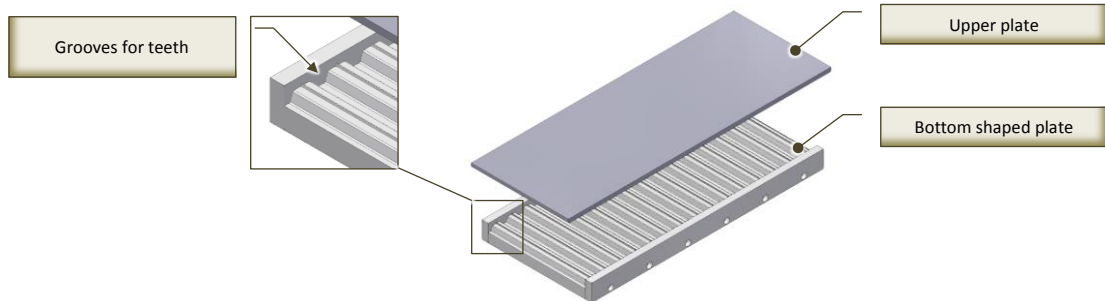

Fig. 8-5 – Positioning of the HabaSYNC timing belt on joining plate
3. If you want to join a HabaSYNC timing belt, load it into the joining plates (Fig. 8-5):